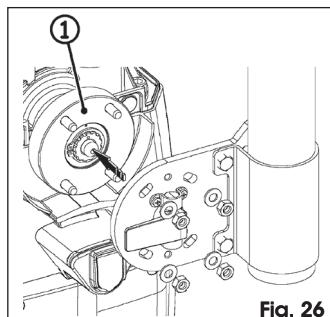

Fig. 26
6. Position all these parts on the drive disk (Fig. 26 ref. ①) respecting - for leftward closing - the orientation shown in the figure.